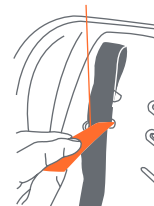

Fig. 32-1
6. Using the included Belt Threading Tool, insert the Harness Straps through the Slots selected in step 2 above, in the seat pad and the seat shell, respectively (Fig. 32-1).